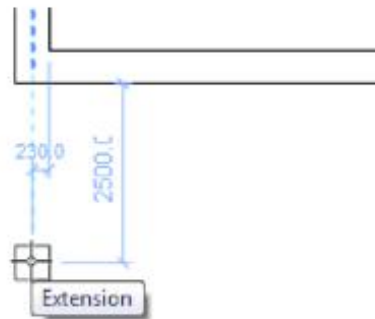

Figure 2–50
3. Using alignment lines and temporary dimensions, place the column on the front left of the building, as shown in Figure 2–50.